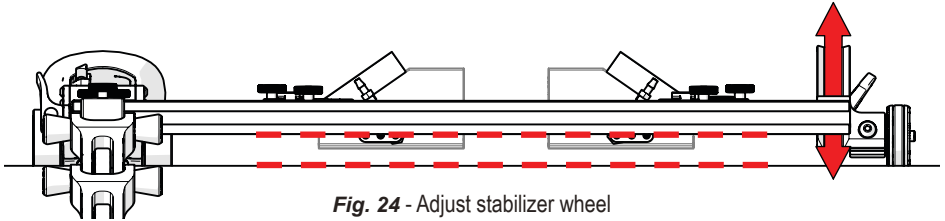

Fig. 24 - Adjust stabilizer wheel
9. Adjust the stabilizer wheel (Fig. 24) to align the frame bar parallel with the scan surface. (see Stabilizer Wheel on page 19).